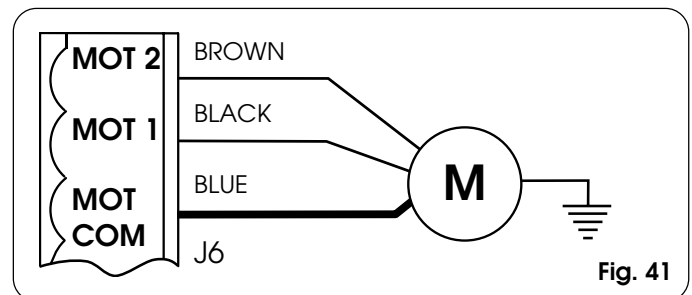

Fig. 41
Check if the motor wiring is as shown in Fig. 41 (standard connection).
**Note:** If, at the first OPEN pulse, the gate does not move in the required direction, change over the BROWN and BLACK motor wires on J6 connector (Fig. 41).